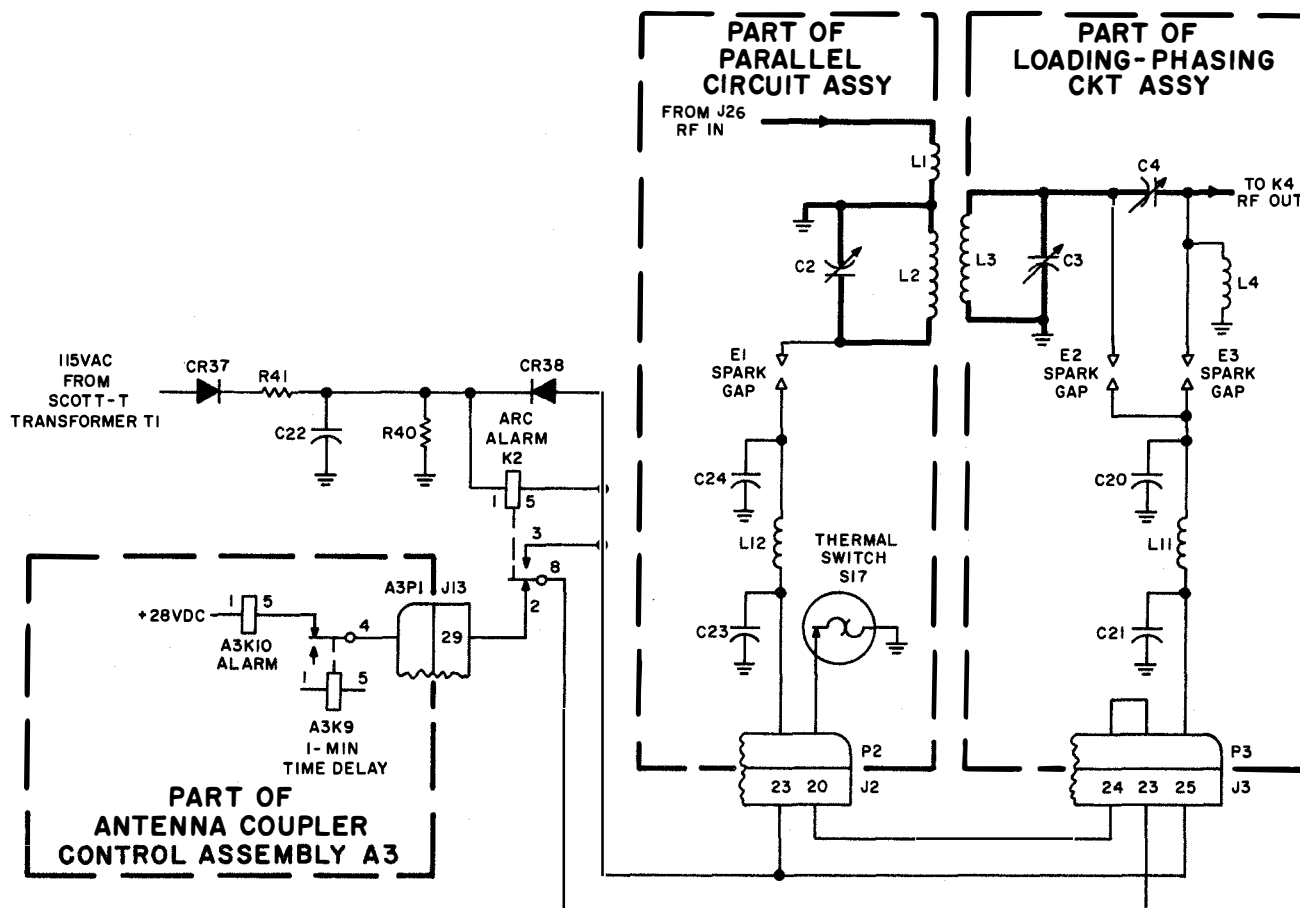

Figure 4-5. Arc Protection Circuit, Simplified Schematic Diagram
a. FUNCTIONAL DESCRIPTION. - (Refer to figure 4-5.) The antenna coupler contains an arc protection circuit which will alarm associated equipments if an rf arc develops within the antenna coupler. Spark gaps E1, E2, and E3 are placed at arc-susceptible locations in the rf circuit of the coupler. The arc path to ground is from the rf line, through the spark gap, through capacitor C23 or C20, to ground. If an arc occurs, a low impedance path to ground is also provided for the ground return of arc alarm relay K2. When relay K2 is energized, holding contacts 8 and 3 maintain a direct dc ground through thermal switch S17. When contacts 2 and 8 on relay K2 open, the dc ground for relay A3K10 is lost, relay K10 deenergizes, a ground
(1) REFERENCE ILLUSTRATIONS. - Schematic diagram, figure 5-18, and simplified schematic diagram, figure 4-5.
(2) ADJUSTMENT PROCEDURES. - Adjustment procedures are given in paragraph 5-3b.
(3) TROUBLE ISOLATION PROCEDURES.